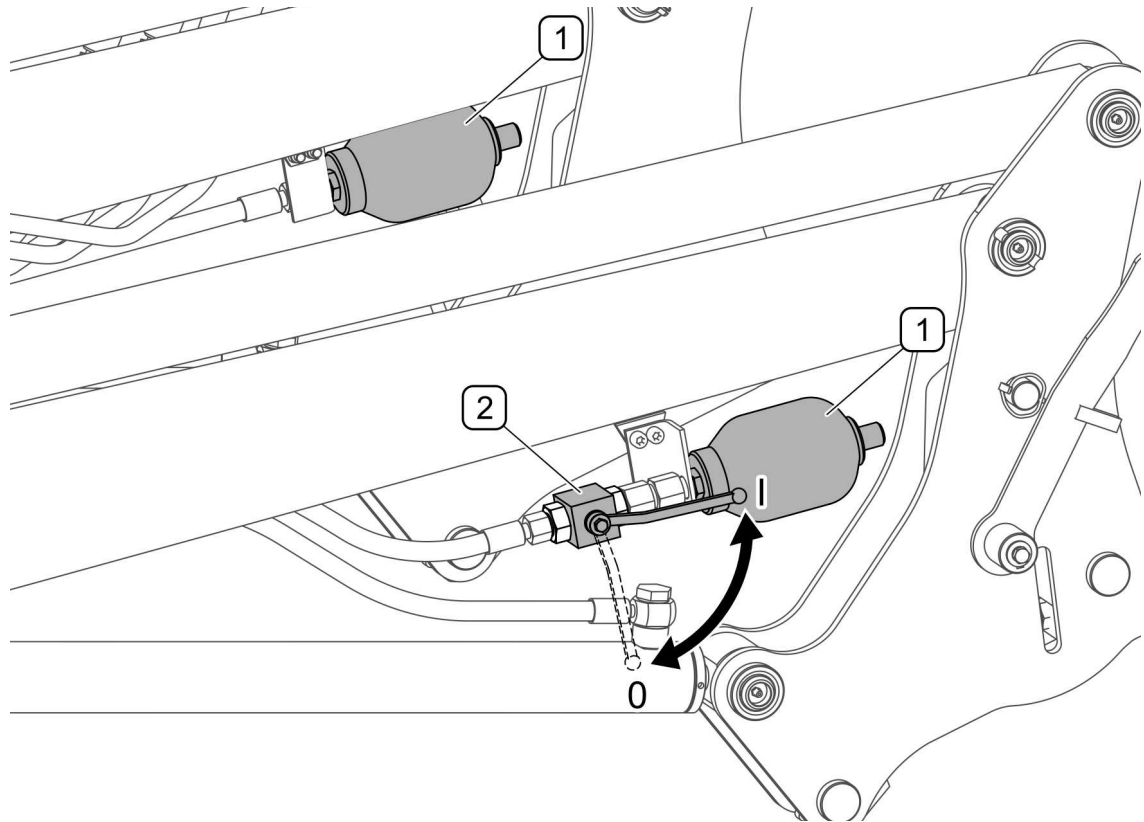

FIGURE 4.14. Activation of hydraulic shock absorption
The hydraulic shock absorber can be deactivated by placing the valve lever (2), (FIGURE 4.14) vertically. It is recommended to turn off the shock absorber when working with high precision of setting the boom (e.g. working with pallet forks).